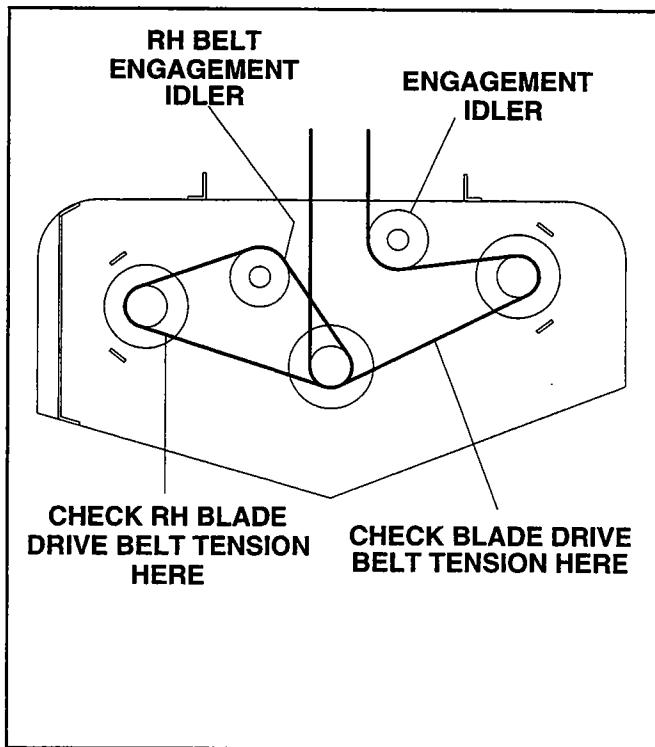
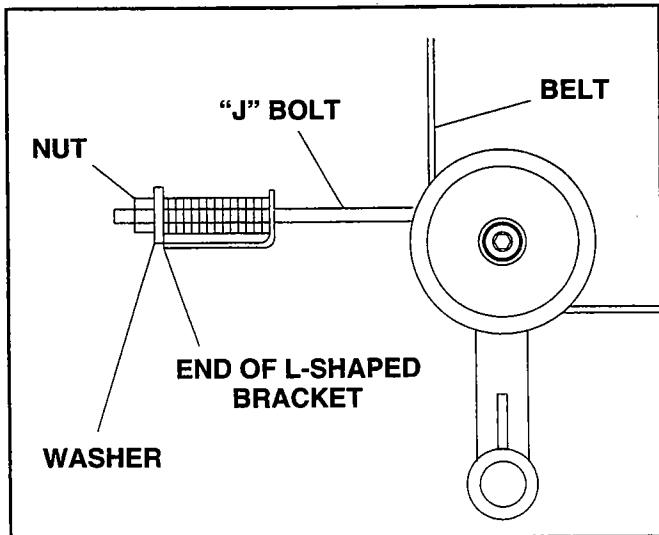
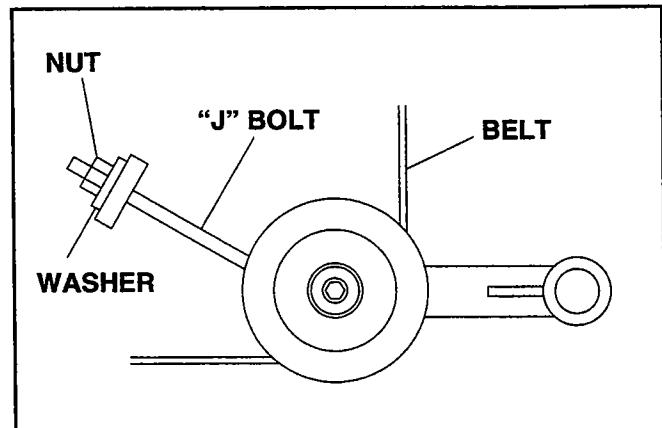

Figure 6
Figure 12
Figure 13
13. Install mower drive belt around engine drive pulley (electric clutch), the center spindle, the idler, and then the left hand spindle. (**See Figure 6**) Adjust tension by turning nut to end of bracket. (**See Figure 12, page 9**) Install RH drive belt. Adjust tension by tightening J-Hook. (**See Figure 13, page 9**)
2. Adjust LH belt tension by tightening idler so that belt moves 1/2" with 10 pounds pressure. Adjust nut to end of L-shaped bracket. (See Figure 12)
3. Adjust RH belt tension so belt moves 1/2" with 10 pounds pressure. Adjust tension by tightening or loosening J-bolt. (See Figure 13)